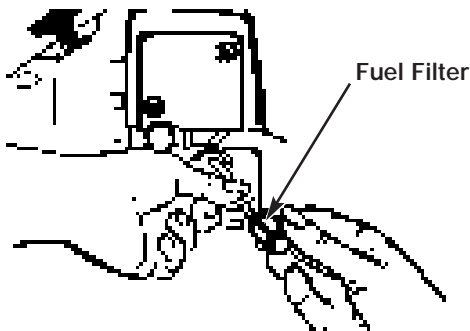

Fig. 31
2. Pull the filter off with a twisting motion (Fig. 31).